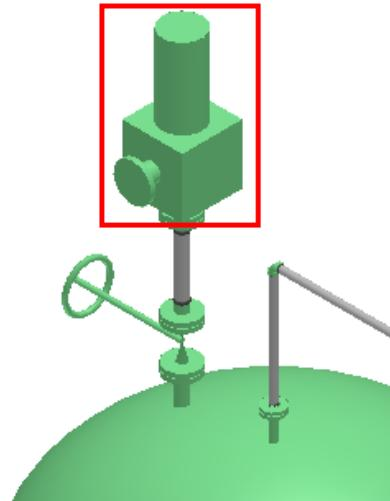

Figure 25: Relief Valve
- Click **Finish** on the **Insert Component** ribbon to accept the placement of relief valve. The relief valve will resemble Figure 25 in the graphic view. Right-click to terminate the **Insert Component** command.